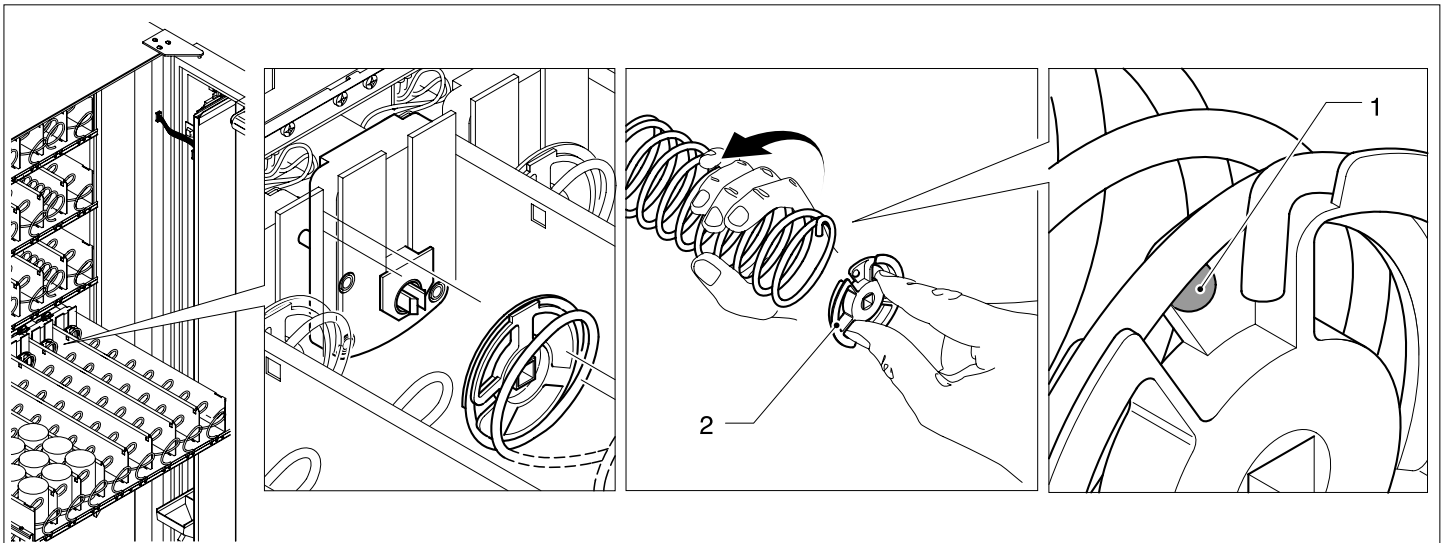

Fig. 9.4
- rotate the spiral in a clockwise sense until it is released on the dragging cam (Fig.9.4)
- couple the spiral behind the notch on the cam (Fig.9.4-pos.1).
- introduce the spiral in the slot on the cam (Fig.9.4-pos.2).